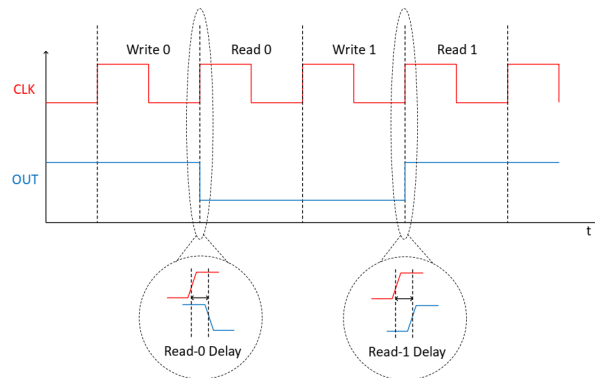

Fig. 3 The timing diagram of the read-after-write example.
- The output should not change before another read operation even after a write (Fig. 3).